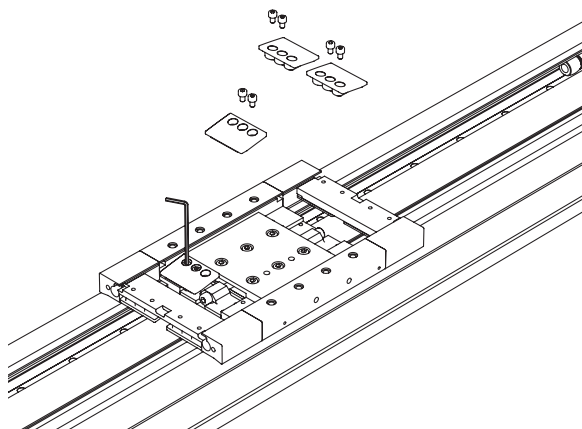

Fig. 7.5 Removing/mounting the cover strip guide
- ▶ If necessary, replace the cover strip guides on the top of the carriage profile and the bottom of the cover strip deflection (see Fig. 7.5).